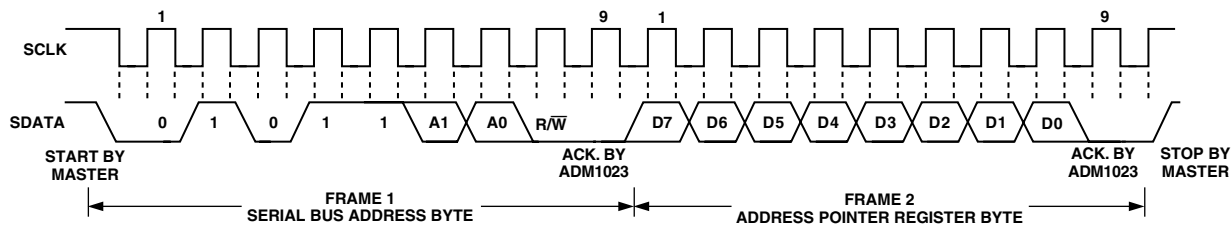

Figure 15. Writing to the Address Pointer Register Only
as before, but only the data byte containing the register read address is sent, as data is not to be written to the register. This is shown in Figure 15.
A read operation is then performed consisting of the serial bus address,  $R/\bar{W}$  bit set to 1, followed by the data byte read from the data register. This is shown in Figure 15.
2. If the Address Pointer Register is known to be already at the desired address, data can be read from the corresponding data register without first writing to the Address Pointer Register, so Figure 15 can be omitted.